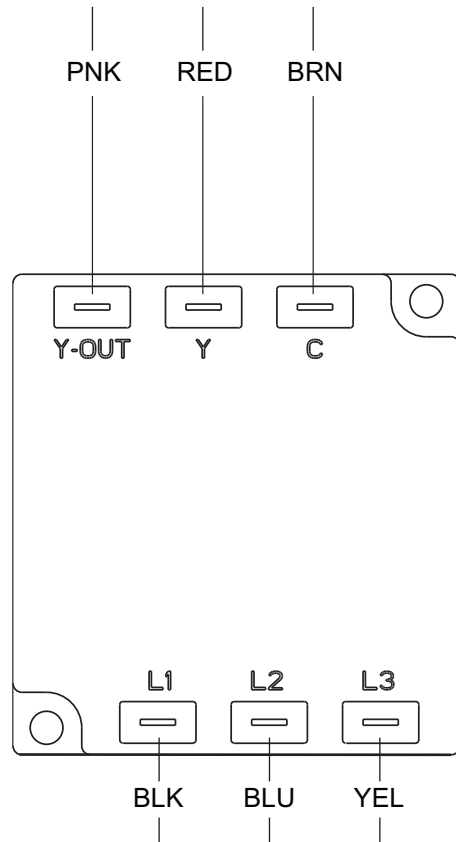

Fig. 13 — Phase Monitor Module Detail (575-v)
- b. For 575-v: Route the wiring harness along the top of the control box connecting the pink wire to the Y-OUT spade connector, the red wire to the Y spade, and the brown wire to the C spade of the phase monitor module. (See Fig. 13.)